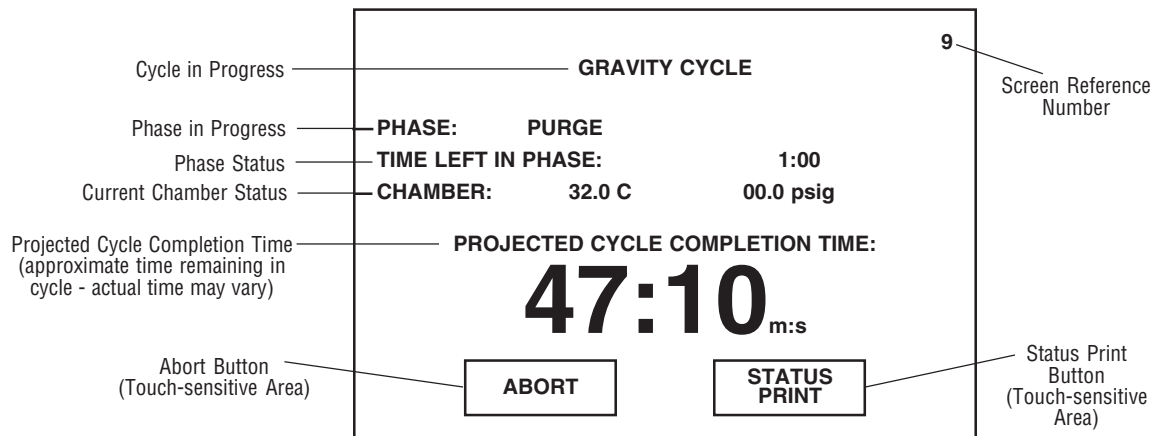

Figure 4-3. Example of In-cycle Touch Screen
- **Sterilizer Control Touch Pad** – This is visible on the control touch screen whenever the sterilizer is in Standby mode. Refer to Figure 4-3.
The touch screen allows the user to operate and program the sterilizer control by touching (pressing) the appropriate touch-sensitive areas on the display. On each screen, all rectangular-outlined boxes are touch-sensitive areas, referred to as "buttons" (see Figure 4-3).